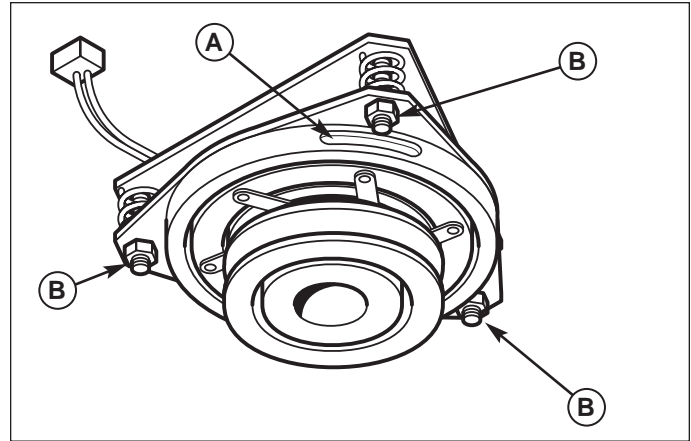

Figure 24. PTO Clutch Adjustment
2. See Figure 24. Note the position of the 3 adjustment windows (A) in the side of the brake plate and the nylock adjustment nuts (B).
4. Alternately tighten the adjustment nuts (B, Figure 24) until the rotor face and armature face just contacts the gauge.